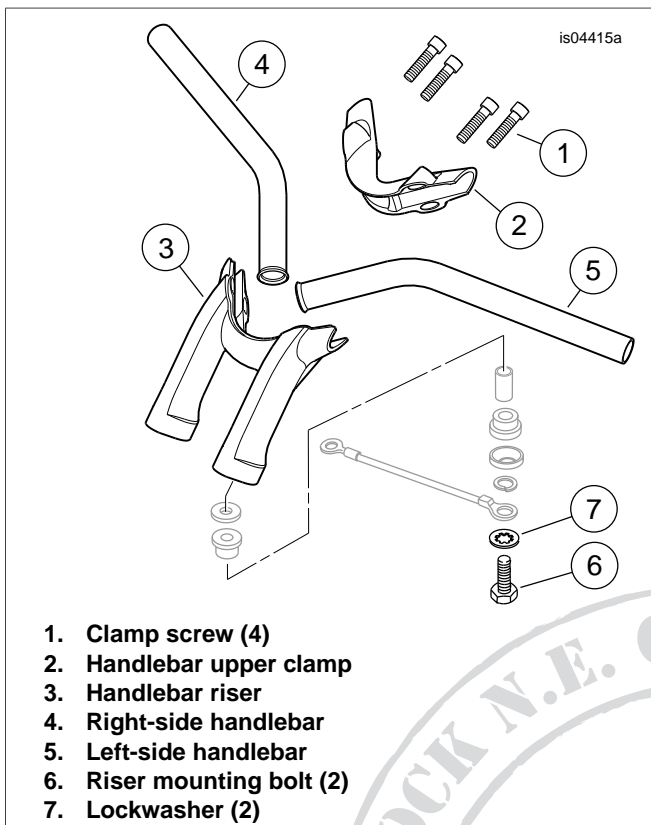

Figure 2. Handlebar Clamp and Riser (Rocker Models)
**For Rocker (FXCW/C) models:** See Figure 2. Remove and discard the four hex socket head screws (1) that fasten the handlebar upper clamp (2) to the riser (3). Remove and discard the clamp. Remove the handlebars (4 and 5) from the motorcycle.
**For Rocker (FXCW/C) models:** See Figure 2. Remove and discard the two riser mounting bolts (6) and lockwashers (7) from under the upper fork bracket. Remove and discard the handlebar riser (3), but save the remaining riser isolation hardware for later installation.